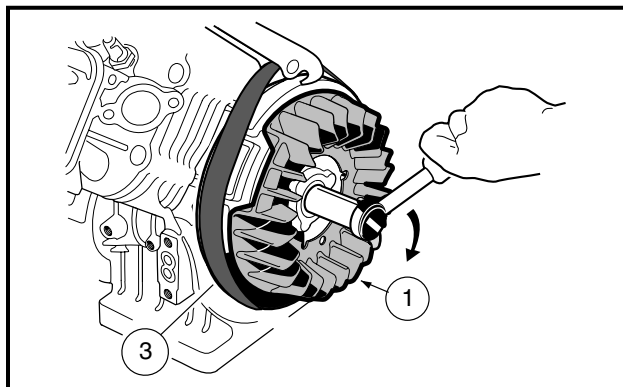

Figure 3-100 Fan and Flywheel Assembly
3. Use a strap wrench (3) to keep the flywheel and fan assembly (1) from turning and tighten the flywheel nut to 63 ft-lb (85.4 N-m) (**Figure 3-100, Page 3-45**). See following **CAUTION**.